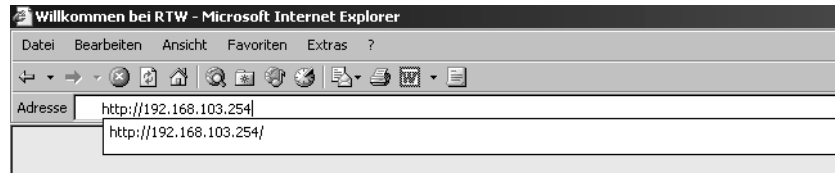

Fig. 8-32: Entering the IP-Address
1. Start your internet browser and enter `http://192.168.103.254` in the address field (see Fig. 8-32) followed by the hit of the return (Enter) key.